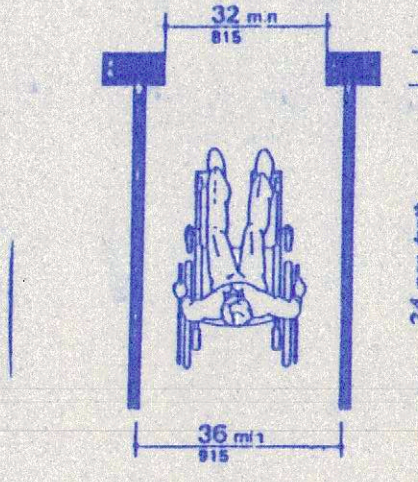

Fig. 1
4.2.1 Wheelchair Passage Width. The minimum clear width for single wheelchair passage shall be 32 in (815 mm) at a point and 36 in (915 mm) continuously (see Fig. 1 and 2(a)).